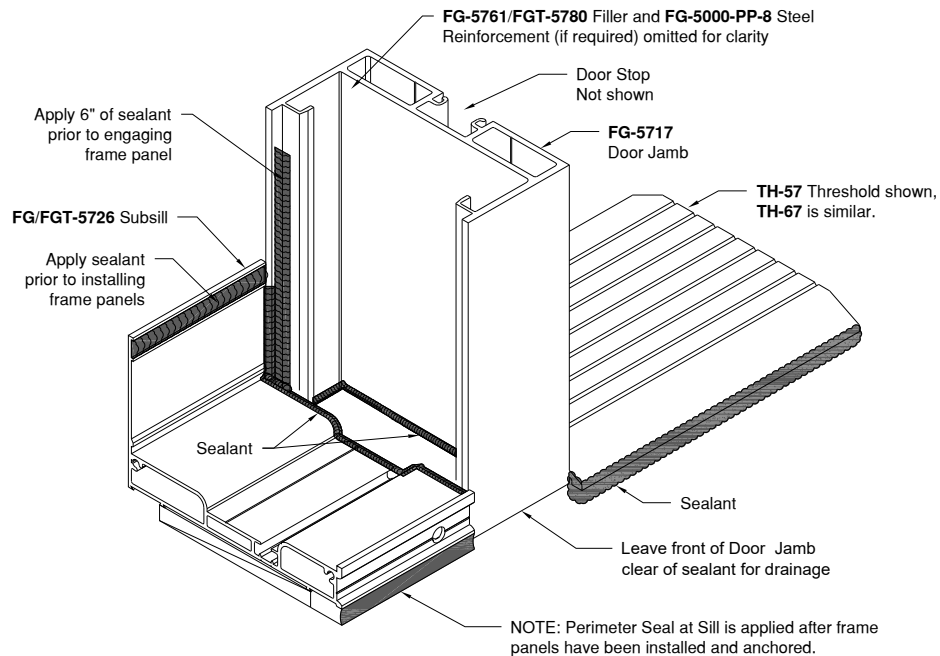

Figure 13: Door Jamb and Subsill Sealant Application at Level E Sidelite
- 7.4 Seal the inside of the Door Jamb(s) to the substrate per *Figure 13*, leaving the front face unsealed for drainage.